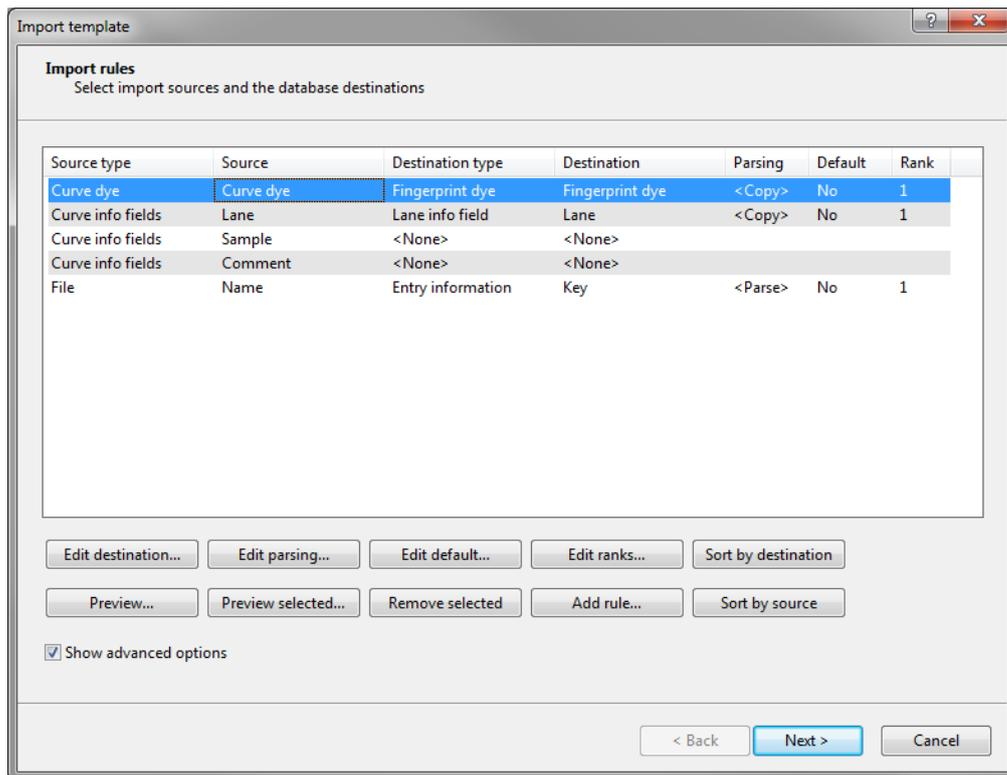

Figure 2: Import rules.
5. Press the **Create new** button to call the *Import rules* dialog box (see Figure 2).
The *Import rules* dialog box should now look like Figure 2.